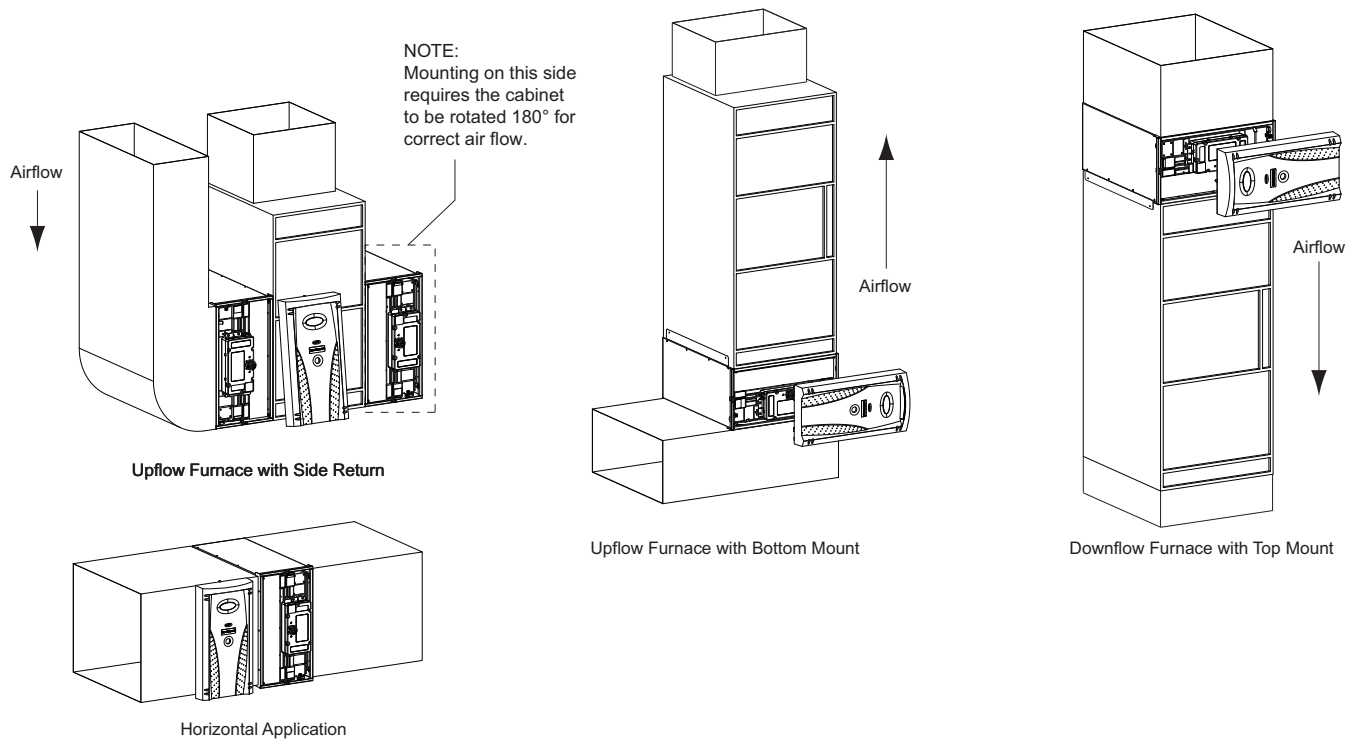

Fig. 3 - Infinity® Air Purifier Cabinet Orientation
- Identify a mounting orientation for the Infinity® Air Purifier in the return air duct (see Figures 3 and 4).
- Position the cabinet between the furnace and return air duct (see Figures 3, 4, 5 and 6). A transition duct may be required.